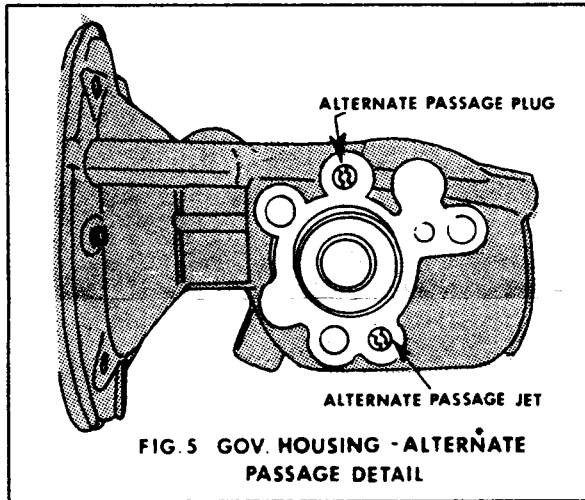

FIG. 5 GOV. HOUSING - ALTERNATE PASSAGE DETAIL
(g) Unscrew alternate passage plug (CL) and jet (CK) from back of governor housing and mark location for re-assembly (See Fig. 5).